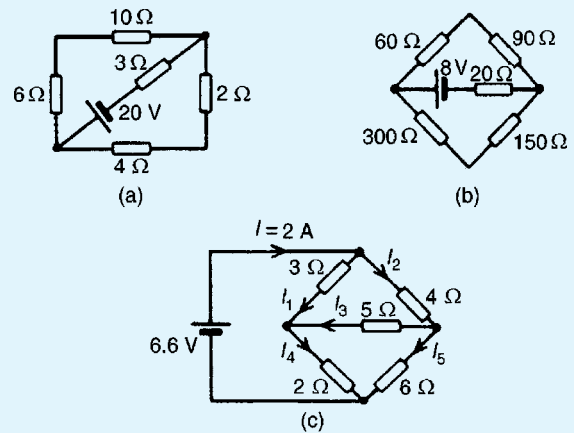

Figure 13.15
5. Find the current flowing in the  $3\ \Omega$  resistor for the network shown in Fig. 13.15(a). Find also the p.d. across the  $10\ \Omega$  and  $2\ \Omega$  resistors.
6. For the network shown in Fig. 13.15(b) find: (a) the current in the battery, (b) the current in the  $300\ \Omega$  resistor, (c) the current in the  $90\ \Omega$  resistor, and (d) the power dissipated in the  $150\ \Omega$  resistor.
7. For the bridge network shown in Fig. 13.15(c), find the currents  $I_1$  to  $I_5$